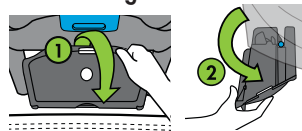

Figure 29
Grasp front edge of LATCH Bin (1), and rotate it away from the Carrier (2), as shown in **Figure 29**.